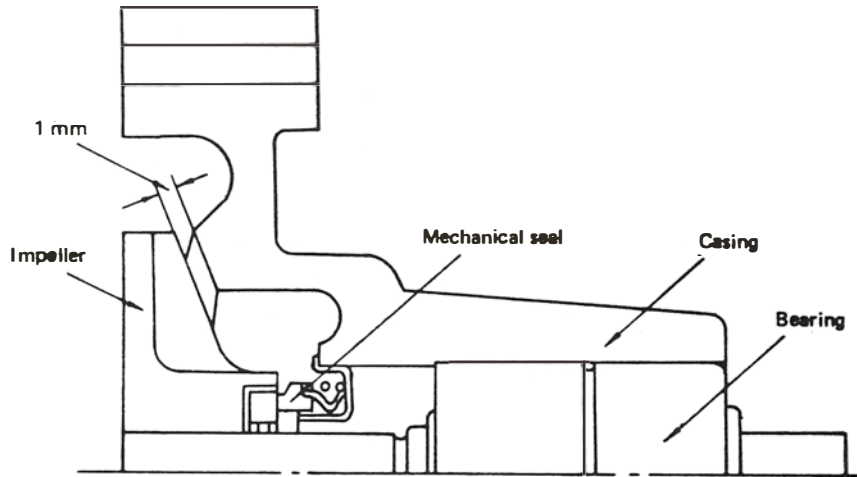

Figure 47
4. Coat the mechanical seal impeller side with oil and install the impeller over the shaft using a press. Make sure that there is a standard clearance as shown in Figure 47.